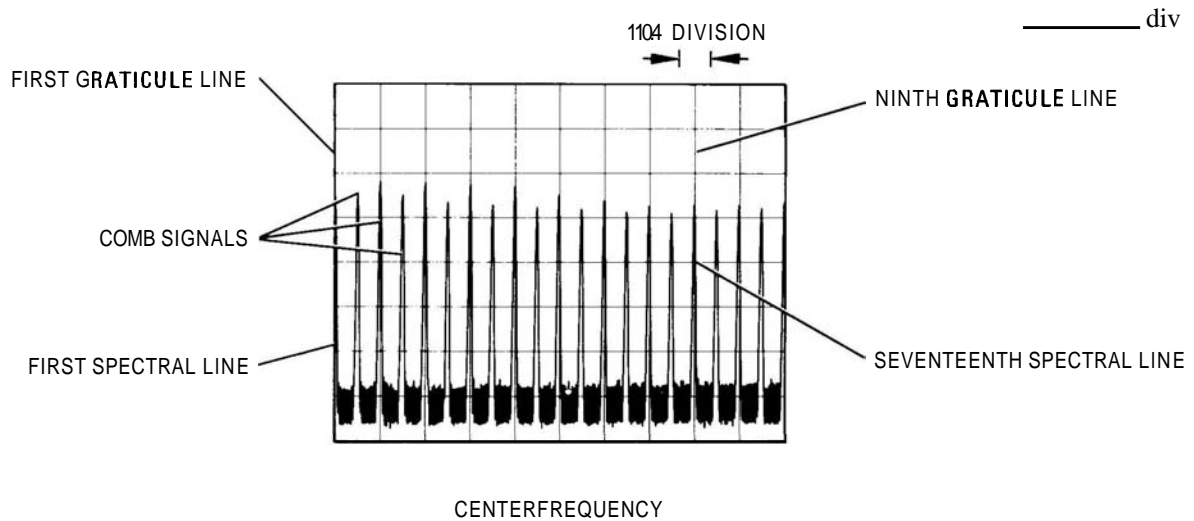

FIGURE 4-2. FREQUENCY SPAN ACCURACY MEASUREMENT FOR SEVENTEENTH SPECTRAL LINE
- Adjust spectrum analyzer TUNING control to position one spectral line (from comb generator) at first graticule line (left-hand edge of display). Measure the error between 17th spectral line and 9th graticule line as shown in Figure 4-2. Error should be no greater than  $\pm 0.4$  division.